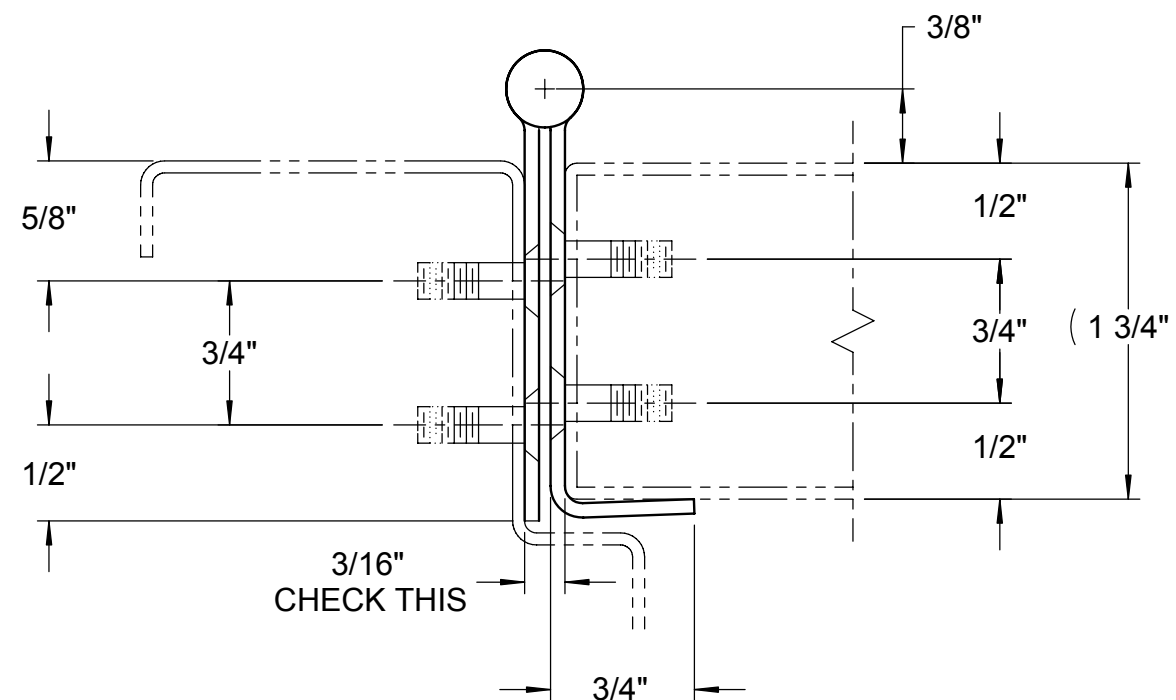

FIGURE 1: HINGE PLACEMENT & CLEARANCE TEMPLATE
- Perform each step of these instructions unless specifically labeled (A), (B), and (C). Hospital tips on hinges should be placed on the top of the door.
- (1) Place hinge on frame as shown in Figure 1 on the opposite side of this instruction page. Follow instructions on the hinge box for field cut-down.
- (2) Mark all the hole locations on the door jamb, making sure the hinge is held firm in place. Check handing.
- (3) Center punch each hole location. The use of the Markar MT-806 center punch can help center the hole so that the fasteners will enter straight. The taper on the tool sits in the countersunk hole on the hinge.
- (4) (A)&(B) Drill all holes using a #25 bit.
- (5) (B) Tap each hole for a 10-24 thread.
- (6) Place the hinge on the edge of the door. Carefully line up the hinge with the top and back edges of the door.
- (7) Mark all the hole locations on the door making sure to hold the hinge firmly in place.
- (8) Center punch each hole location.
- (9) (A)&(B) Drill the holes using a #25 bit.